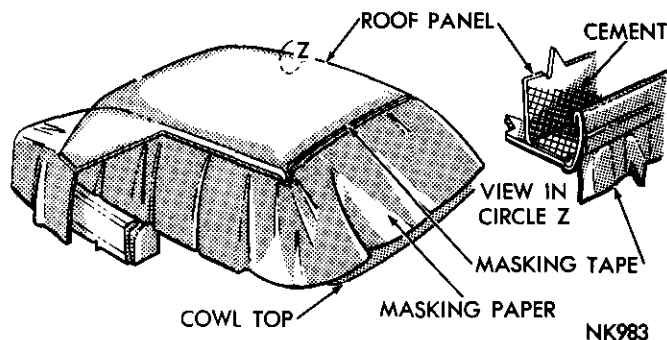

Fig. 1—Masking the Body—Sedan
(1) Mask body (Fig. 1) from edge of drain trough across upper "A" pillar, windshield and rear window reveal, top of deck upper and bottom of roof panel at belt line.
(2) Locate and mark center line of roof panel and